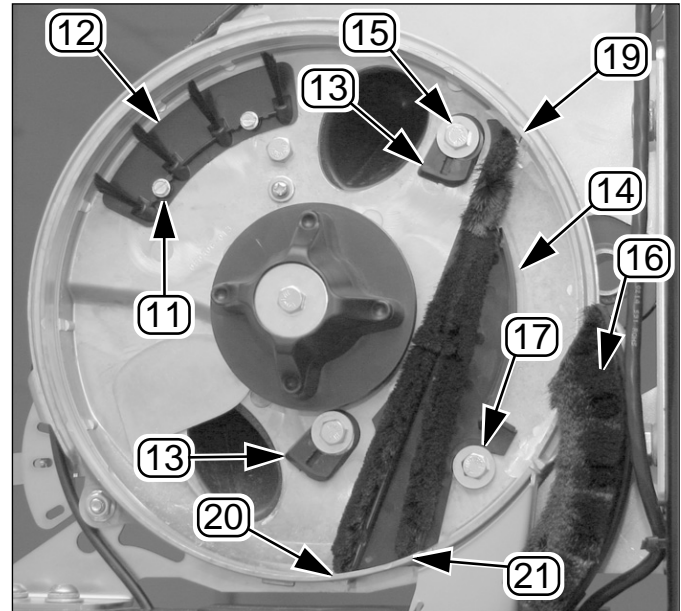
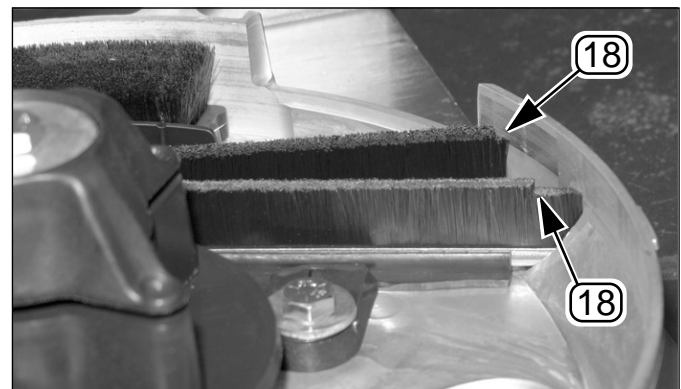

Figure 83
Figure 84
*Refer to Figure 83*
1. Insert the flat blade of a large screwdriver into the slots of the brush holder snaps (13). Turn each snap clockwise to release brush holder (14).
2. Prepare to catch drop brush (16) (which will fall loose). Slide brush holder left and up to free front edge from under washer (17). Remove brush holder.
*Refer to Figure 84*
4. Insert replacement strip brushes into grooves at holder bottom so that notched ends (18) are at the bottom.
5. Check strip brush positioning with a trial re-insertion of the brush holder. The ends of the long brush must fit snugly into meter housing grooves at top (19) and lower rear (20). The bottom end of the short brush must fit snugly in the lower front housing groove (20). If any significant force is required to re-seat the brush holder, a strip brush is likely too high or too low.
7. Starting with the bottom snap, swing snaps (13) back into engagement.